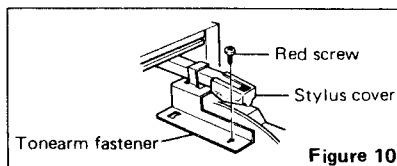

Figure 10
- (1) When the POWER button is pressed, power will enter this unit and the POWER indicator will light up.
- (2) Press the OPEN/CLOSE button and bring forward the turntable unit. When this is done, the front cover will open and close in accordance with movement of the turntable unit, and thus should not be forced open manually. The turntable unit will come out forwards, and so there should be no obstacles in its way.
- (3) Remove the stylus cover by pulling it gently forwards. (See Fig. 10)
- (4) Place your record on the platter sheet.
- (5) Switch the SIZE button and SPEED button in accordance with the record which you are about to play.
- (6) Press the START/STOP button when playing a record in the opened state. When playing a record in the closed state, press the START/STOP button after pressing the OPEN/CLOSE button and inserting the turntable unit.
- (7) The platter will turn, the tonearm will move automatically to the start position for the first piece, and the record will begin to play. (Automatic lead-in operation)
- (8) When the record has been played, the tonearm will return automatically to the arm rest, and the platter will stop turning. (Automatic return operation)